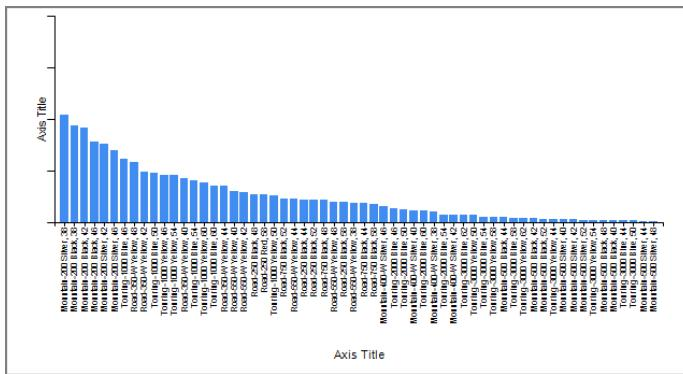

Figure 13-11
4. If you were to preview the chart at this point, a standard bar (column) chart is rendered, as shown in Figure 13-11. To convert the chart into a Pareto Chart, the Chart Series properties must be adjusted. Select the Chart Series either in the Chart Data window or by clicking on the bars within the chart. Then press the F4 button.
**NOTE** You will need to format the horizontal chart axis to duplicate the layout of the Figure 13-11. In the horizontal chart axis properties, change the interval to 1.